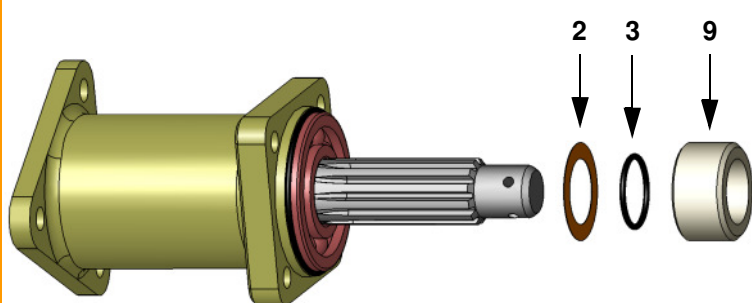

Fig.6
- Slip the shim (**only swing axle**) (Pos.2, Fig.1), the O-ring (**only swing axle**) (Pos.3, Fig.1) and the wheel bearing spacer (Pos.9, Fig.1) on the axle shaft as shown in the picture Fig.6.